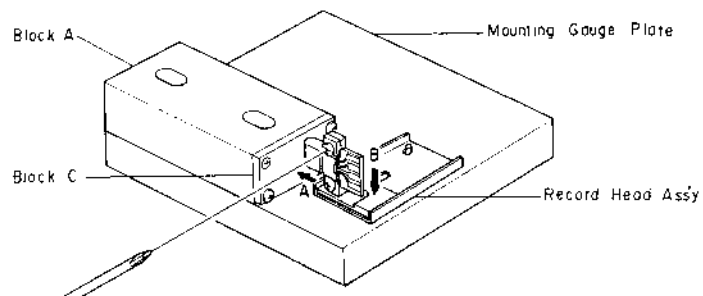

Fig. 4.20
- (5) Remove the Block B from the Mounting Gauge Plate.
- (6) As shown in Fig. 4.20, mount the R-8L record head assembly onto the Mounting Gauge Plate, then check the location of the R-8L record head surface. (If record head contacts to the Block C, loosen 2 pcs. of screws that assemble record head and record head plate, then place the R-8L record head assembly onto the Plate.)
- (7) Remove the R-8L record head assembly from the Mounting Gauge Plate.
- (8) Readjustment of Record Head Mounting Gauge M-9048 (DA09048A)
- (9) Remove the Block B from the Mounting Gauge Plate.
- (10) Mount the R-8L record head assembly onto the Mounting Gauge Plate.
- (11) As shown in Fig. 4.20, loosen 2 pcs. of screws that assemble record head and record head plate. As the location of the Block A is secured by the item (8)-(c), push the record head to the directions A and B, then tighten 2 pcs. of screws.
- (12) Check to insure freedom from gap between the Block C and record head surface, then tighten the 2 pcs. of screws on the record head assembly with lock tight paint.
- (13) Remove the R-8L record head assembly from the Mounting Gauge Plate.
- (14) Assemble the record head assembly to the head mount base assembly.
- (15) Assemble the head mount base assembly to the mechanism assembly.
- (16) Check the record head stroke. If the above are inaccurate, items (1) through (16) will have to be repeated till satisfactory results are obtained.